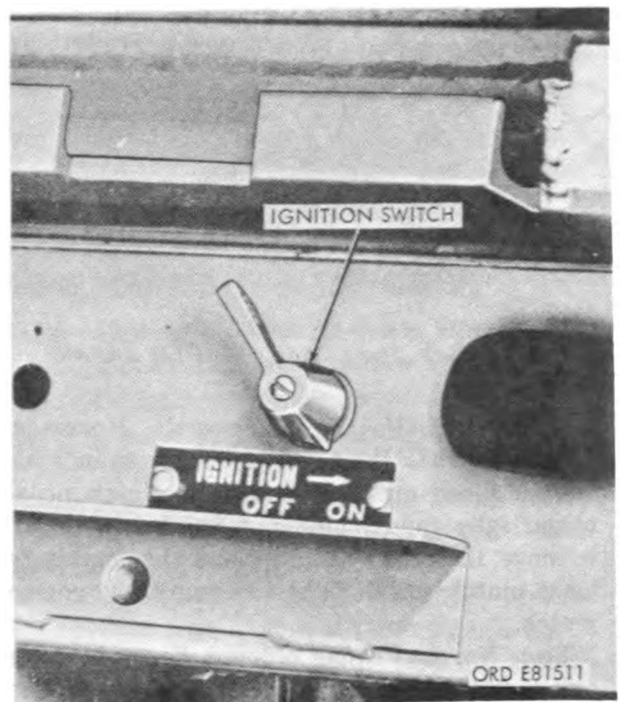

Figure 2-15. Ignition switch in ON position.
Step No. 8. Ignition Switch. Turn the knob of the ignition switch to the ON position as shown in figure 2-15 and pull the starter rapidly to start engine.
- (5) Turn ignition switch ON (fig. 2-15).